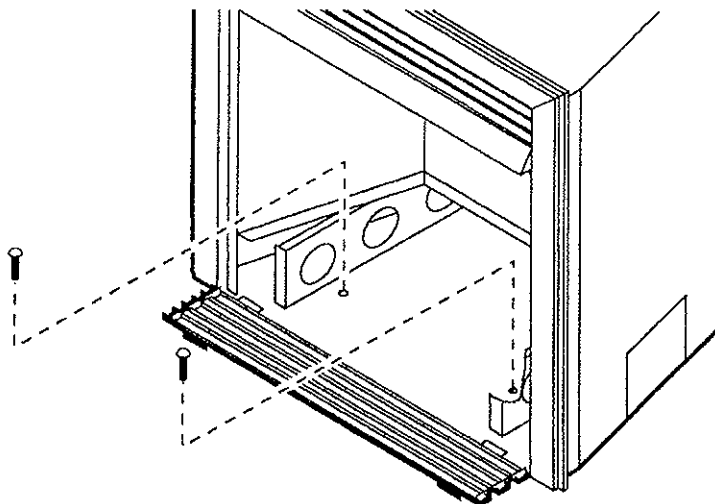

FIGURE 7. Securing Heater to Floor or Hearth
- Secure the firebox with two anchoring screws (3/16" x 1 1/4" length) supplied with the fireplace system (see FIGURE 7).